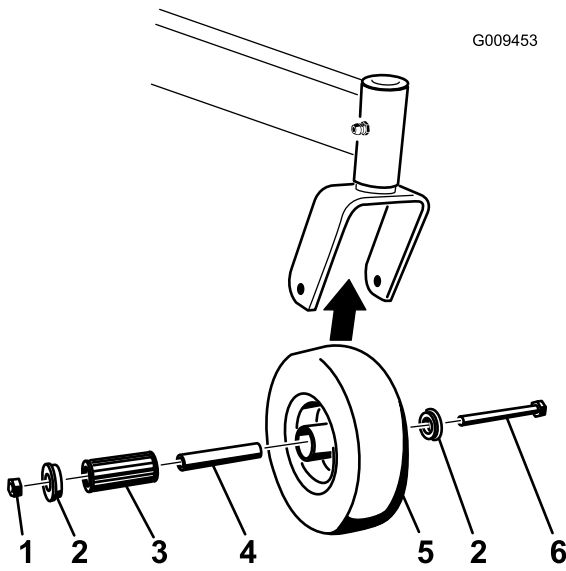

Figure 59
1. Remove the locknut and wheel bolt holding the caster wheel to the caster fork (Figure 59).
- Remove one bushing, then pull the spanner bushing and roller bearing out of the wheel hub (Figure 59).
- Remove the other bushing from the wheel hub and clean any grease and dirt from the wheel hub (Figure 59).
- Inspect the roller bearing, bushings, spanner bushing and inside of the wheel hub for wear. Replace any defective or worn parts (Figure 59).
- To assemble, place one bushing into the wheel hub. Grease the roller bearing and spanner bushing and slide them into the wheel hub. Place the second bushing into the wheel hub (Figure 59).
- Install the caster wheel into the caster fork and secure with the wheel bolt and locknut. Tighten the locknut until the spanner bushing bottoms against the inside of the caster forks (Figure 59).